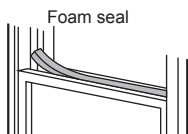

Fig. 13
5. Cut the foam seal to an appropriate length and seal the open gap between the top window sash and outer window sash. Shown as in Fig.13.